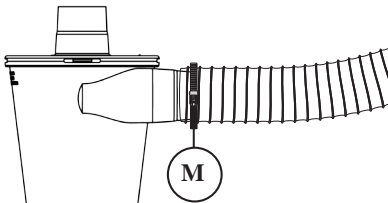
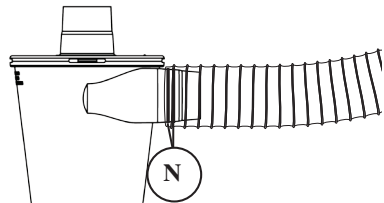

FIG. 8b
FIG. 8c
Note: If your vacuum hose is not tight on the inlet or it keeps pulling off, use the Clamp Band (M) and/or the two O-Rings (N) [FIG. 8b] [FIG. 8c].